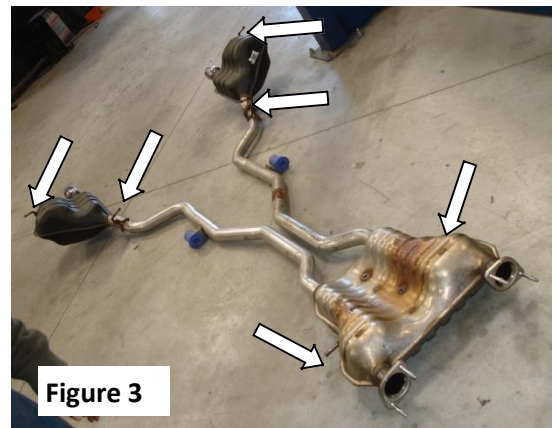

Figure 3
4. Remove the ground strap from the hanger on the R/H rear muffler. Using a muffler stand or an additional person to hold the exhaust system in position, remove the hangers from the rubber isolators and remove the remaining exhaust system from the vehicle. (See Fig. 3)